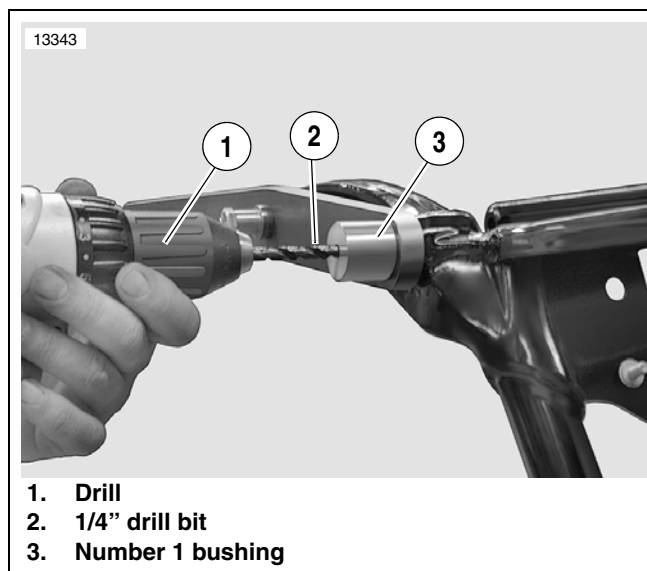

Figure 5. Drilling Broken Bolt
5. See Figure 5. Thread bushing (3) labeled number 1 into fixture.